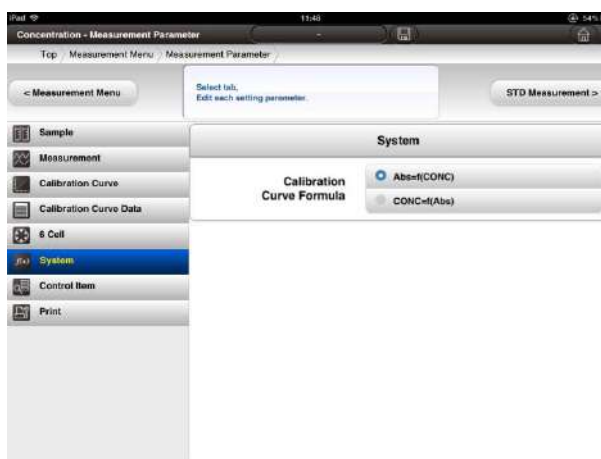

Fig. 4-9 System Conditions Window
- (1) Press  [system tab] to set system conditions.
- (2) The system conditions window (Fig. 4-9) will then be shown. Set the conditions for the calibration curve regression equation according to the guidance. See Table 4-8 for details.